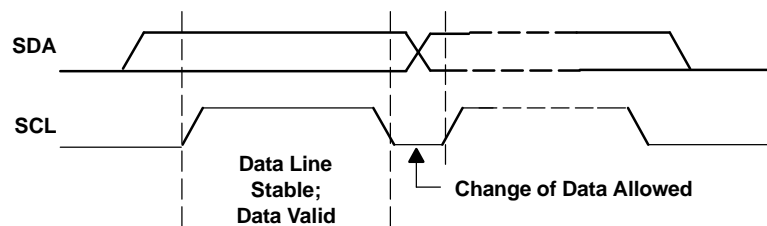
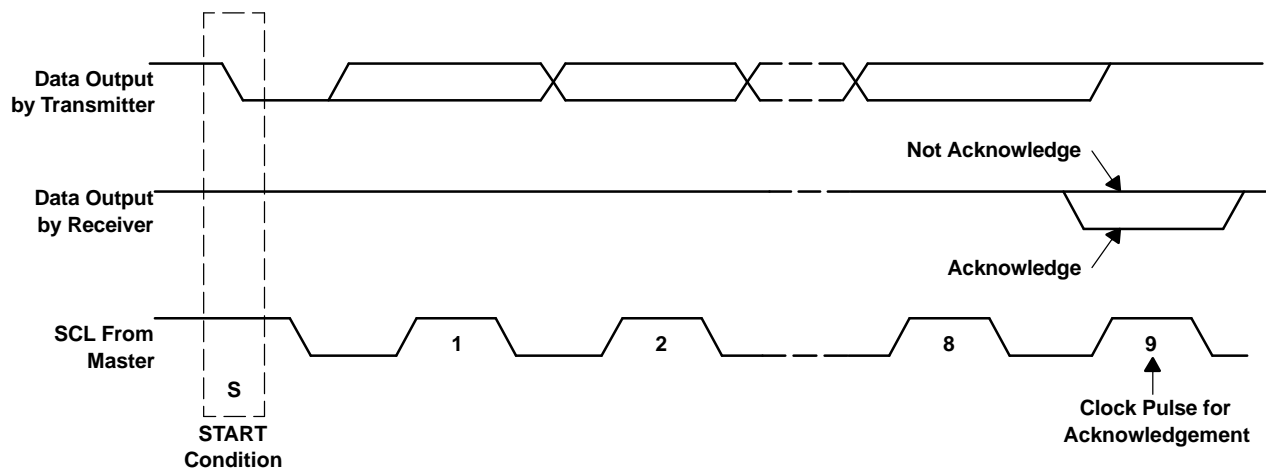

Figure 32. Bit Transfer on the I²C Bus
Figure 33. Acknowledge on the I²C Bus
- The master then generates the SCL pulses, and transmits the 7-bit address and the *read/write direction bit* $\overline{R/\overline{W}}$ on the SDA line. During all transmissions, the master ensures that data is *valid*. A *valid data* condition requires the SDA line to be stable during the entire high period of the clock pulse (see Figure 32). All devices recognize the address sent by the master and compare it to their internal fixed addresses. Only the slave device with a matching address generates an *acknowledge* (see Figure 33) by pulling the SDA line low during the entire high period of the 9th SCL cycle. Upon detecting this acknowledge, the master knows that communication link with a slave has been established.